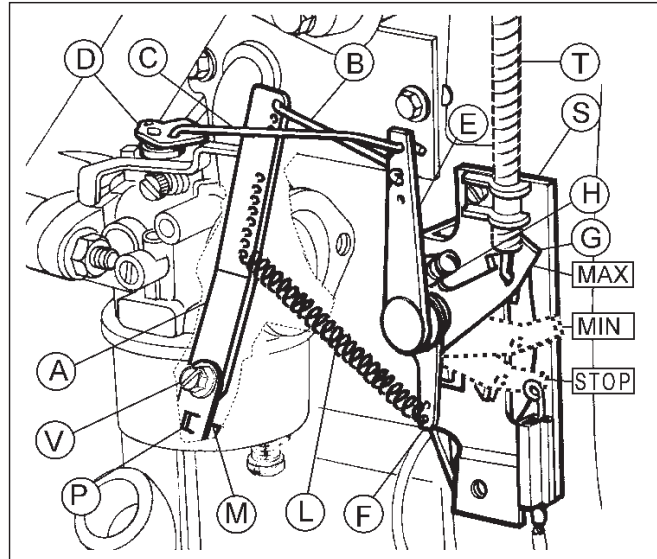

Fig. 10
a) DESCRIPTION AND ADJUSTMENT (Fig. 10)
c) SPEED ADJUSTMENT (Fig 10 & 11)
Remote control has governor plate (S) and a Bowden cable is fixed by clamp. (Fig 10)
e) GOVERNOR ADJUSTMENT (Fig. 10)